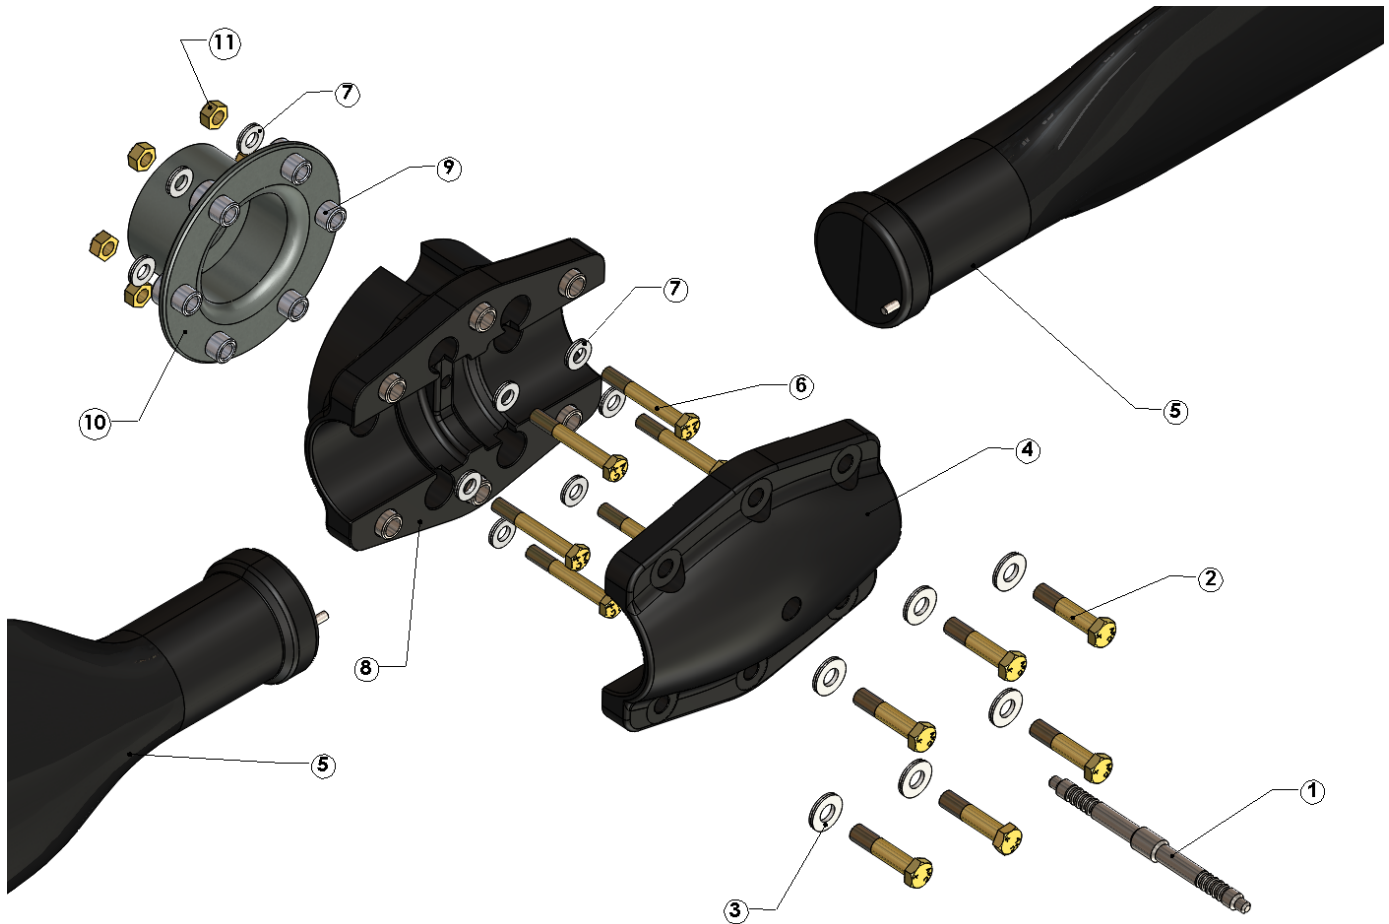
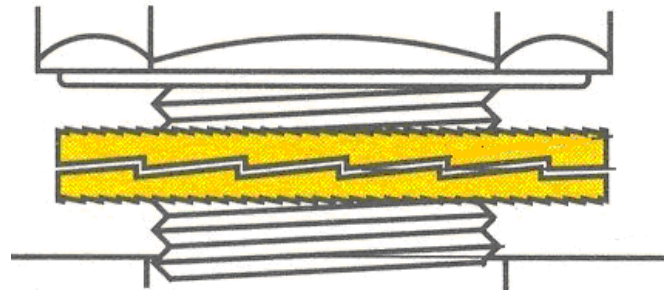

FIGURE 1. PROPELLER ASSEMBLY
FIGURE 2. NORD-LOCK LOCK WASHER
Figure 1 for a view of the two piece hub, blade, and pitch setting gage.
2. Place spacer and spacer bushings (if required), rear spinner bulkhead (if used) and the hub mount, as shown in **Figure 1** on the propeller mounting flange. The hub must sit flush on the mounting flange.
3. Refer to **Figure 1** for a view of the two piece hub, blade, and pitch setting gage. Using the Nord-Lock washers, mount bolts, and lock nuts, secure the hub mount, rear spinner bulkhead (if used), and the spacer (if required) to the engine flange. See **Figure 2** for proper Nord-lock washer assembly. Using a calibrated torque wrench, torque the 6 mounting bolts evenly using an alternating pattern. Tighten the bolts in several passes up to full torque, such as 100, 200, and 240 in-lbs torque. See **Table 1** or hub decal for other units of bolt torque.
Each Nord-lock washer works in pairs with the "ramped" sides facing each other. See Figure 2.
<div>  <p>Caution</p> </div> <p>Check bolt torque at least once a year or if vibration occurs. Hubs use bolts with Nord-Lock washers. No other washers may be used in combination with Nord-lock washers. Each lock washer works in pairs with the "ramped" sides facing each other. See Figure 2.</p>